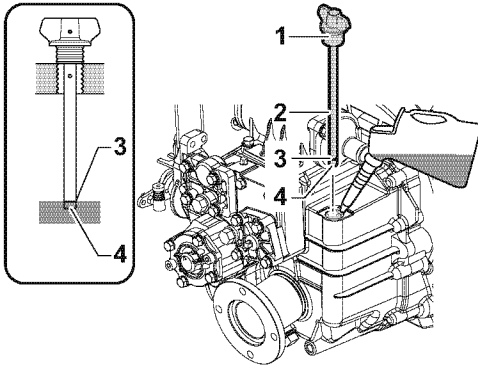

Figure 9
2. Remove the filler cap (**Figure 9, (1)**) at the top of the housing.
3. Remove dipstick (**Figure 9, (2)**) and wipe with clean cloth.
4. Re- insert the dipstick without screw in. See the illustration (**Figure 9**).
5. Remove dipstick. The oil level should be between upper (**Figure 9, (3)**) and lower (**Figure 9, (4)**) lines on the dipstick.
3. Fill with oil to the upper limit on the dipstick (**Figure 9, (3)**). See *Marine Gear Oil Specifications* on page 41.